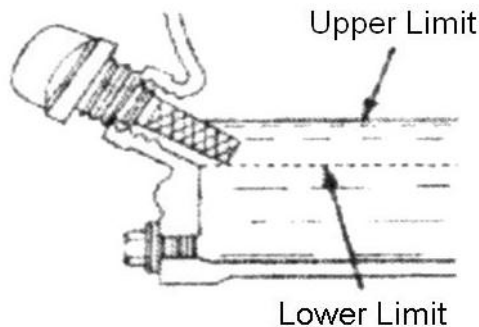

Figure 3.Engine Oil Dipstick
2. Remove the filter cap/dipstick from the engine oil filler hole (Figure 3) and wipe & clean.